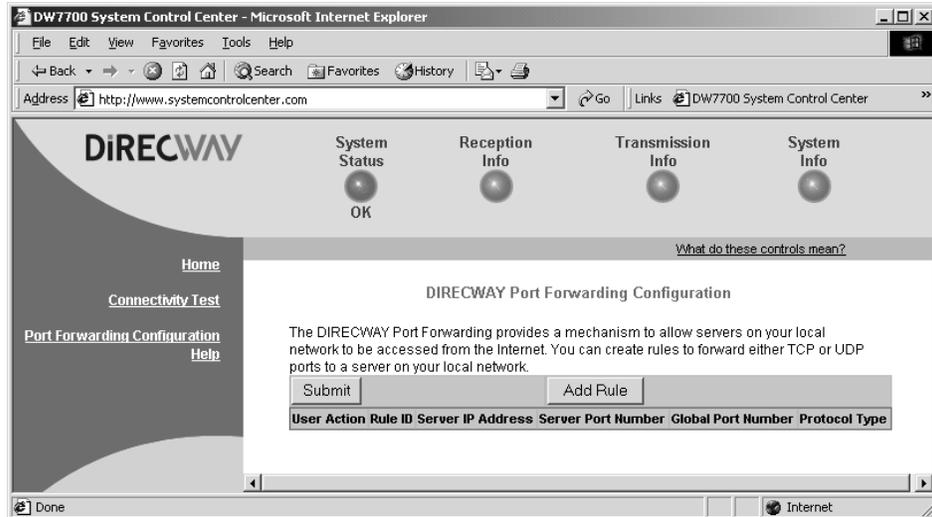

Figure 15: Port Forwarding Configuration page
The Port Forwarding page shown in Figure 15 may be used to define rules for allowing TCP and UDP traffic on the Internet to access servers on your network.
4. Click **Add Rule** on the Port Forwarding Configuration page. See Figure 15.